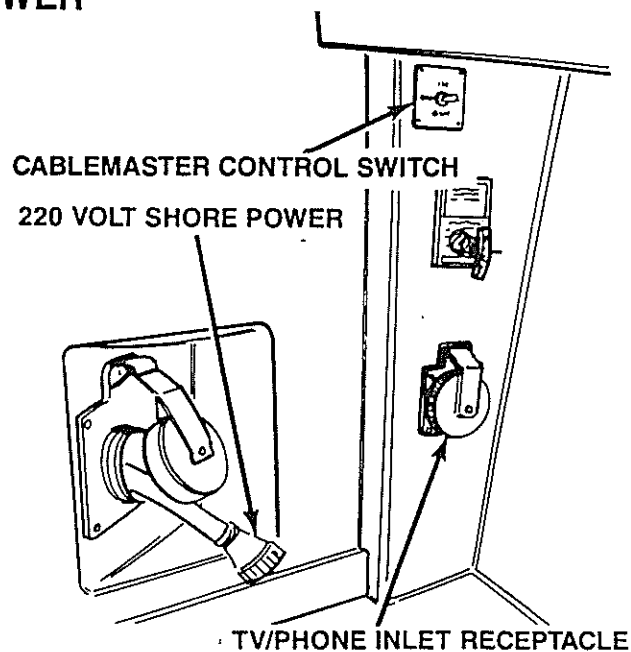

Figure 3-18 Shore Power Inlet
2. See Figure 3-18. Hold the Cable Master switch to OUT and reel out the shore power cable.